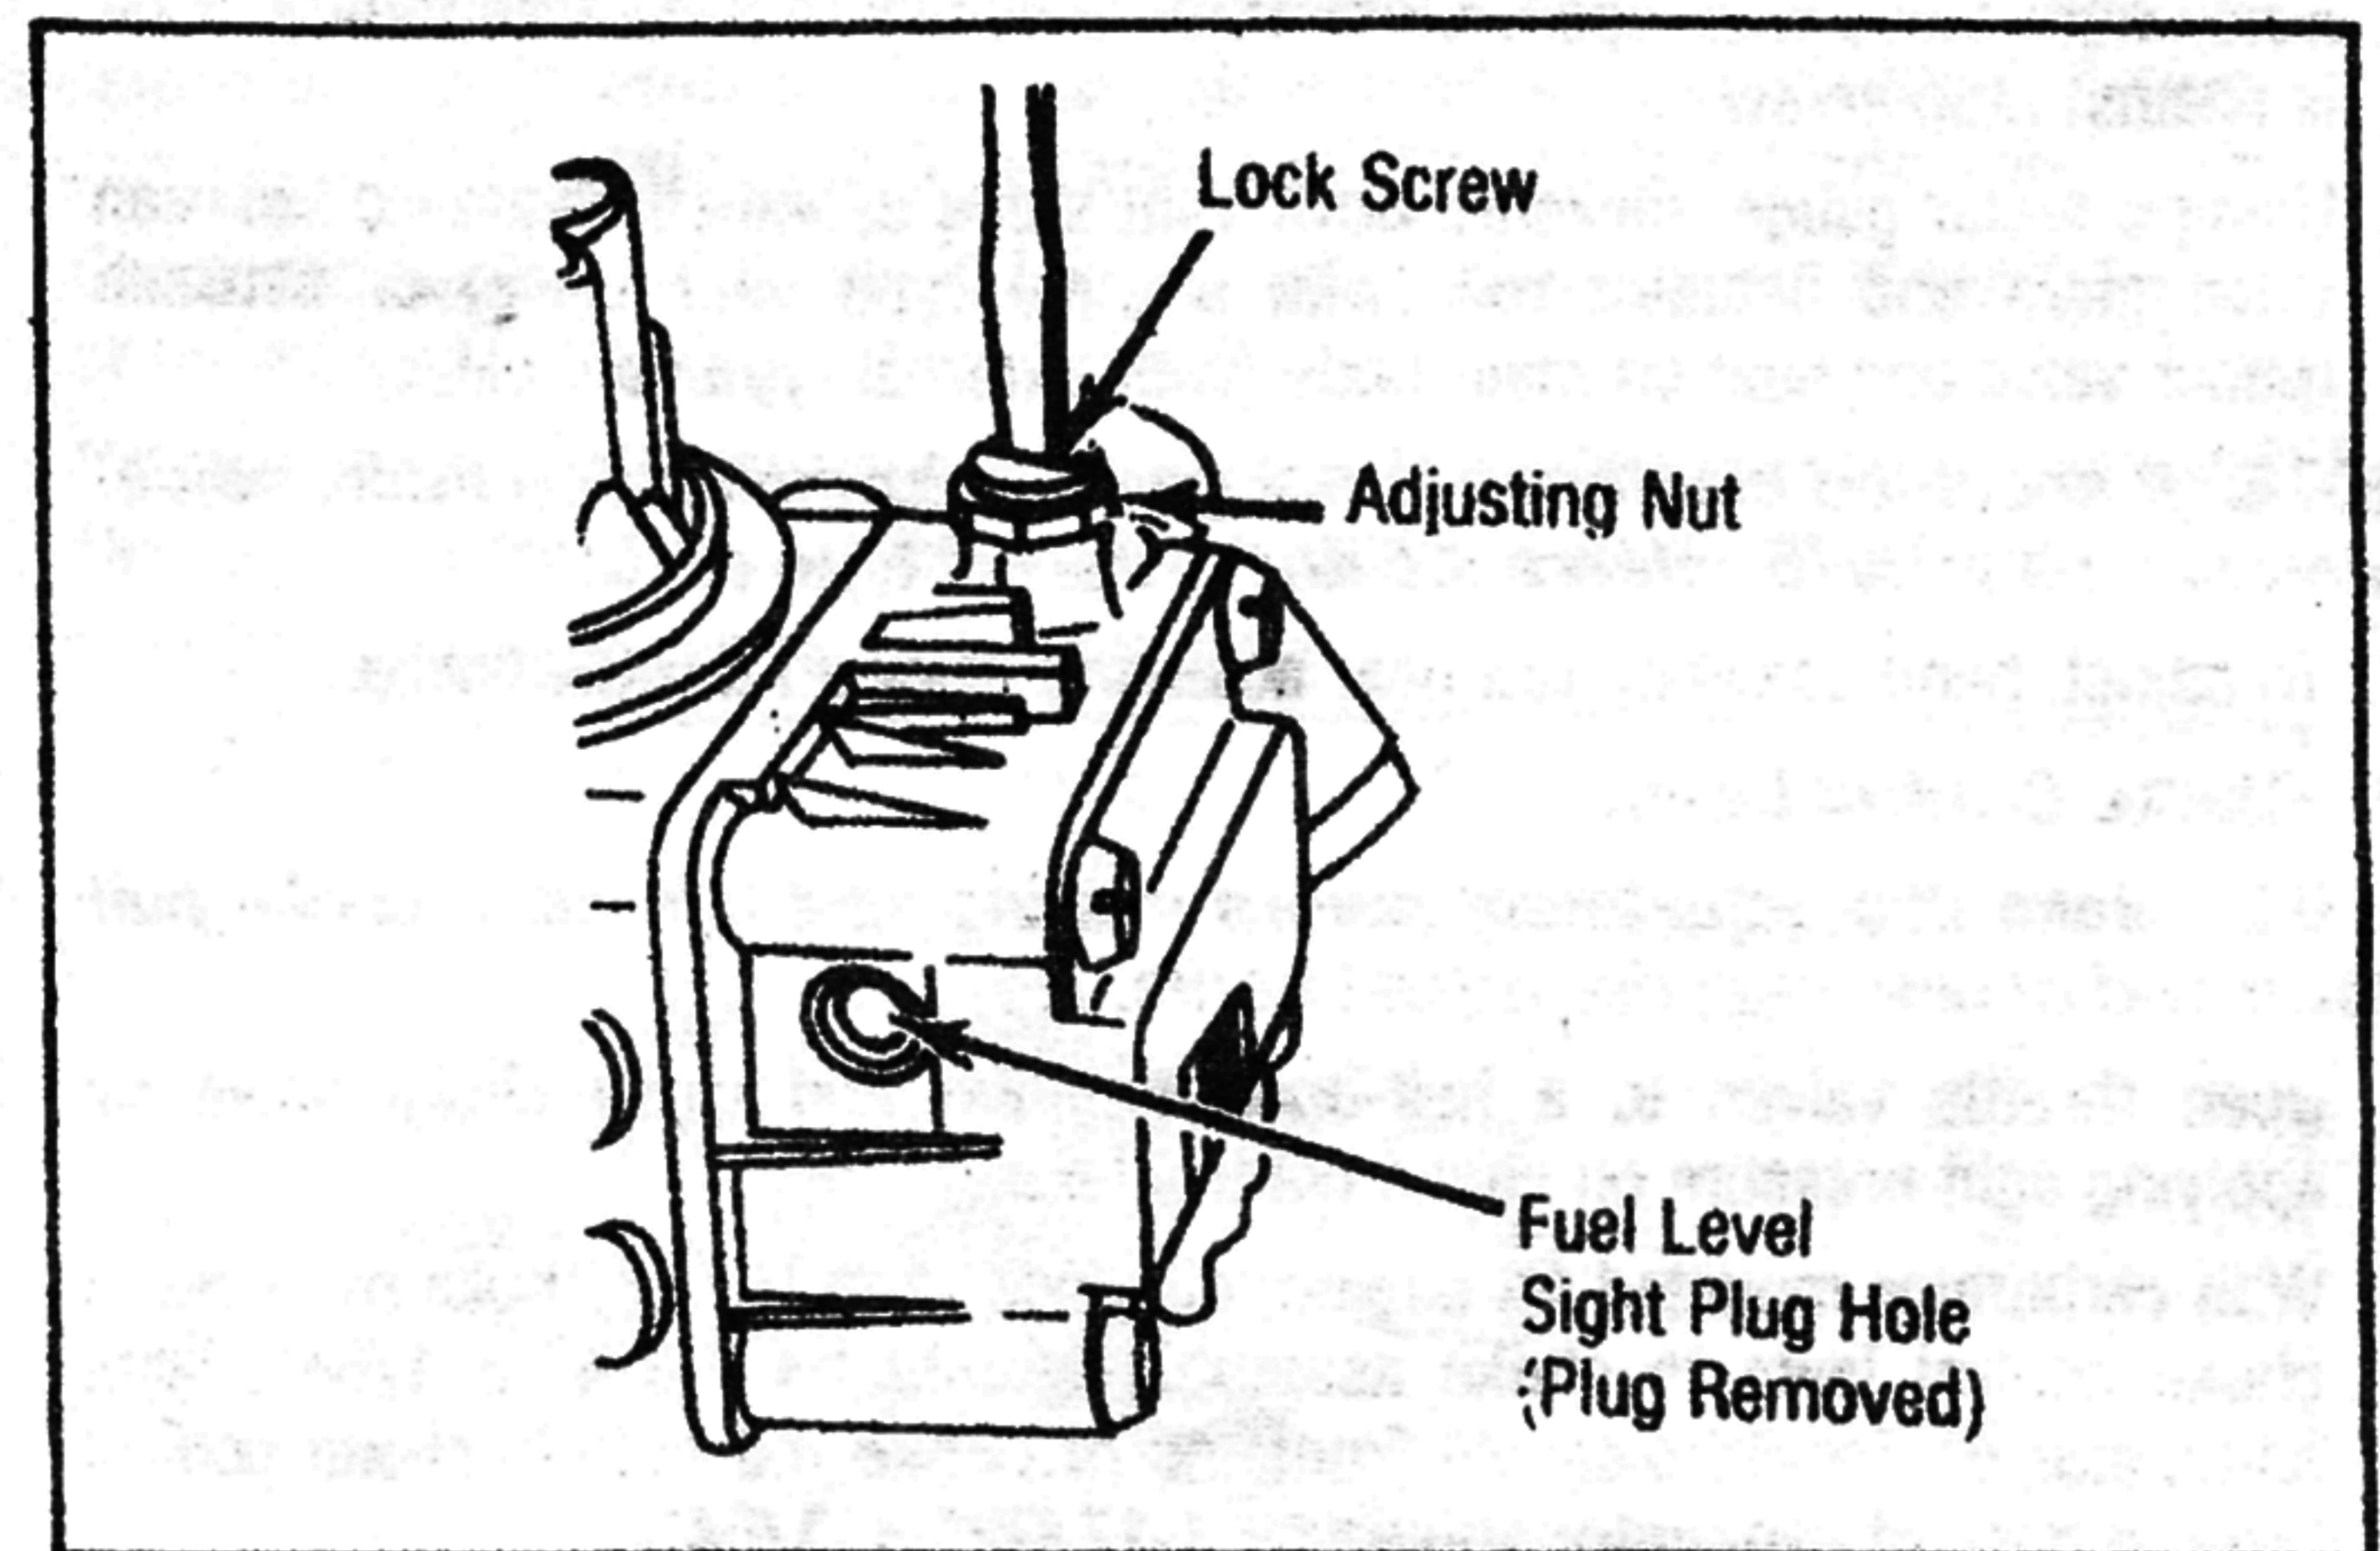

Fig. 15 Fuel Level Adjustment (Wet Setting)
2. Stop engine and remove sight plug from float bowl. Fuel level should be even with base of sight plug hole (plus or minus 1/32"). See Fig. 15.